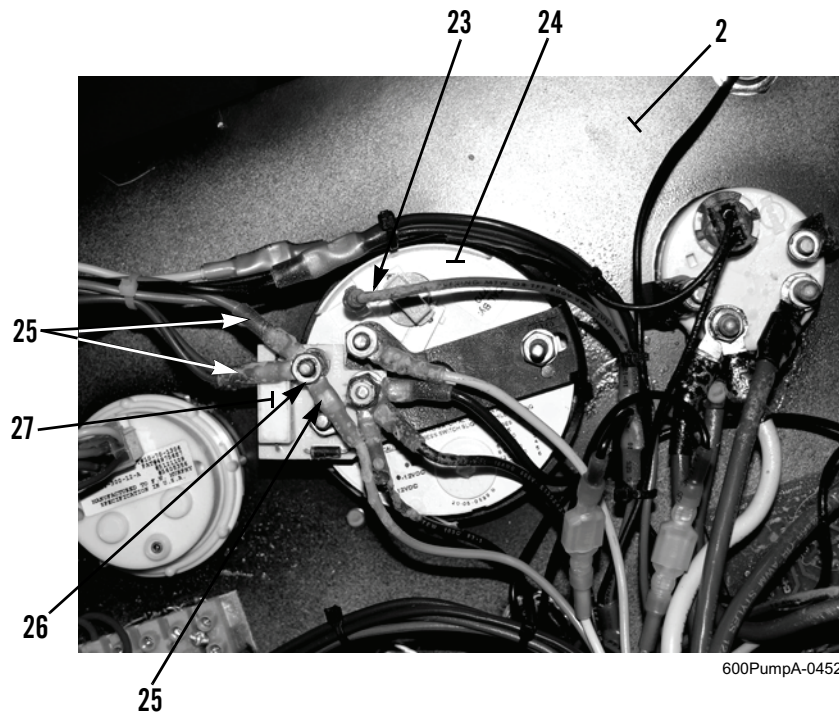

Figure 9. Tachometer Wires.
1. Disconnect terminal of wire (Figure 9, Item 23) from tachometer (Figure 9, Item 24).
2. Remove nut (Figure 9, Item 26) and five wires (Figure 9, Item 25) from terminal of meter voltage regulator (Figure 9, Item 27).